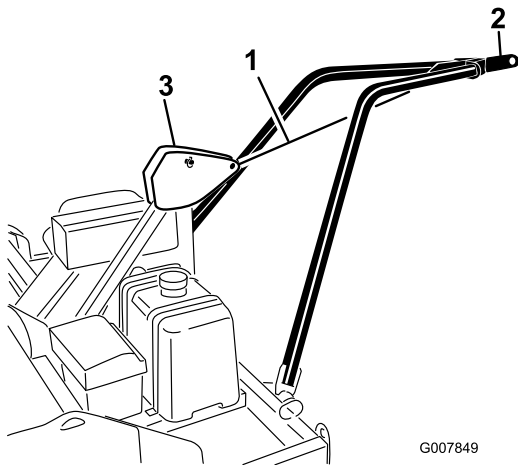

Figure 14
1. Using a tie down or rope, secure the tow-arm hitch plate to the frame hitch pivot while raising the tow-arm for installation (Figure 14).